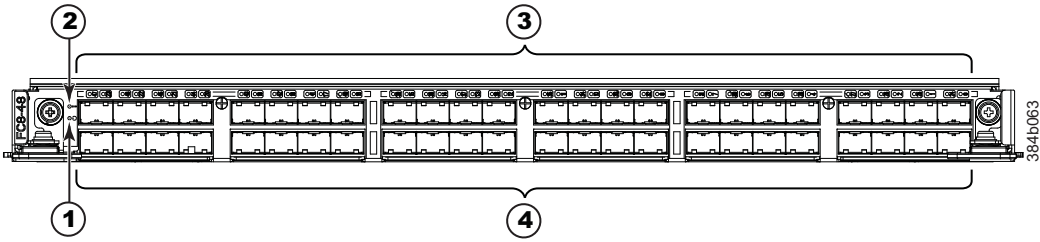

Figure 56. FC8-48 port blade
- Figure 56 on page 148 shows an FC8-48 port blade